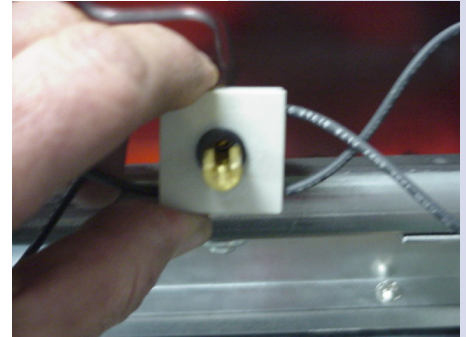

Figure 7
3. Pull slightly the igniter switch from its place. (Figure 7)